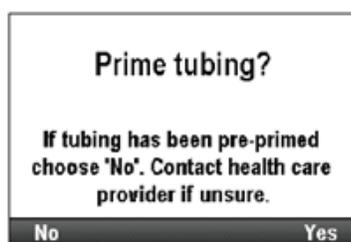

Figure 9: "Prime tubing?" screen
5. When **Disconnect Tubing** appears, make sure you are not connected to the IV catheter. Check to make sure all the clamps are open. Press **Prime**. See Figure 9.